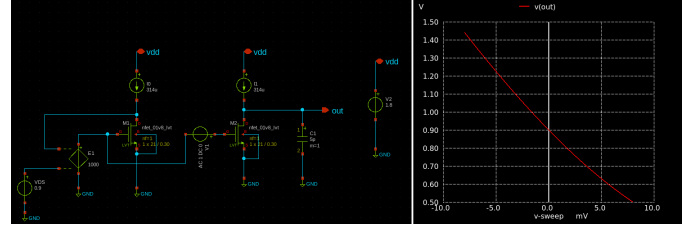

Fig. 8. a_o vs V_{GS}
3) *Input vs output:* Shown in Fig. 8 is a sweep of V_1 from $-8mV$ to $8mV$.